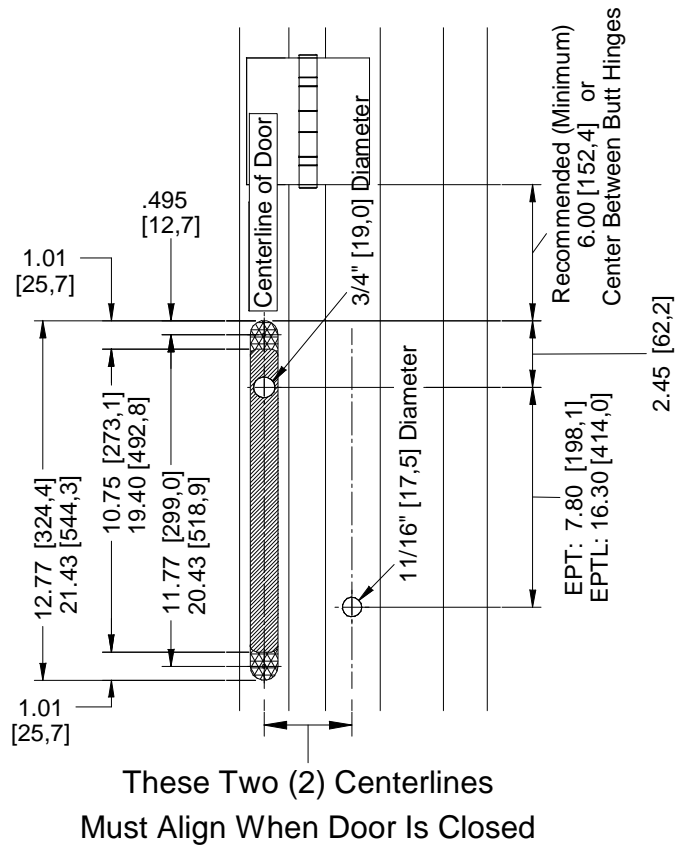
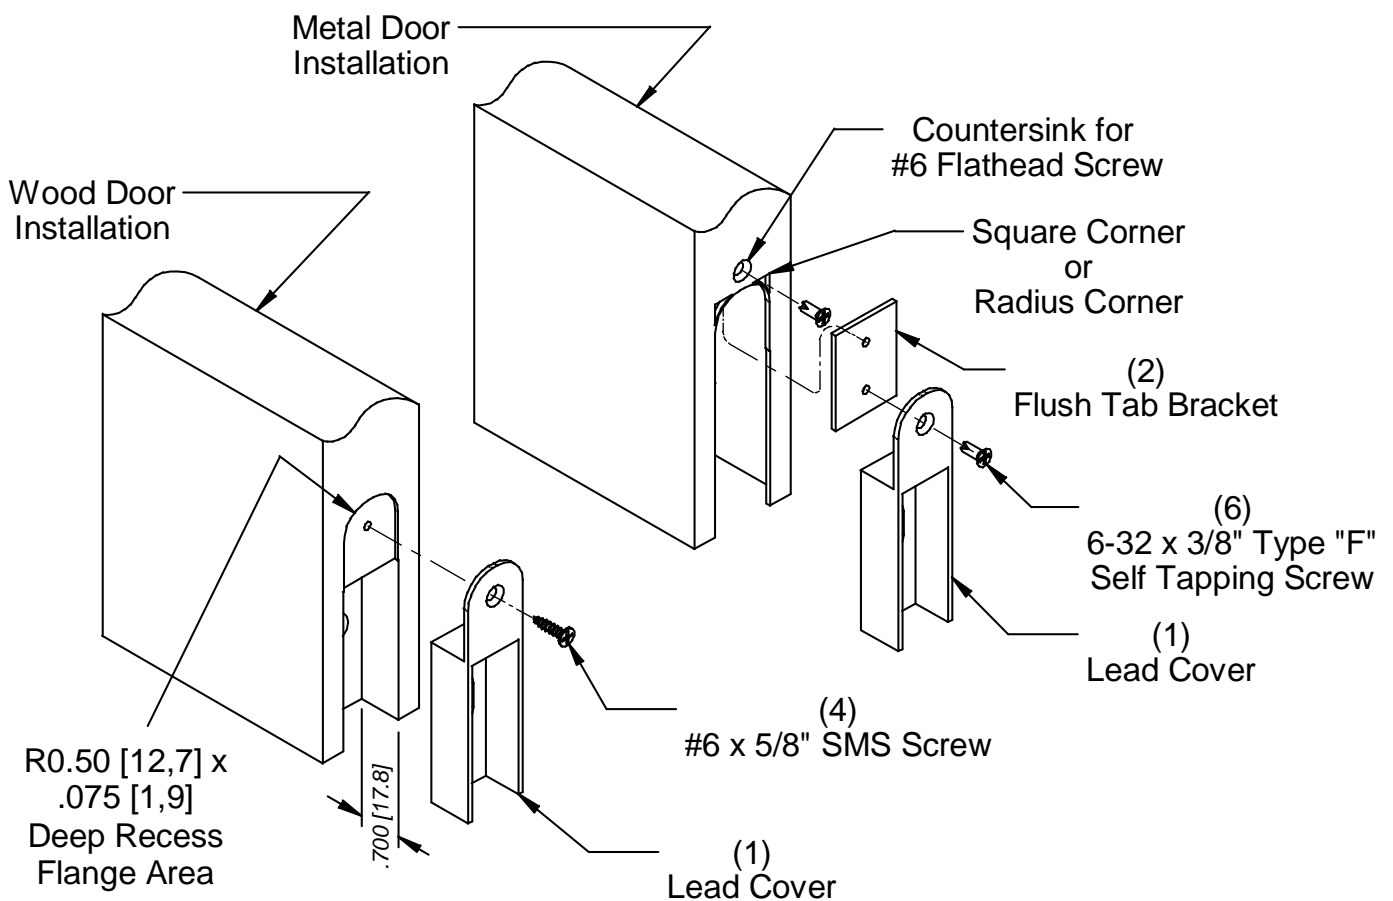

Figure 2
Figure 3
Using a router, cut the main recess slot into the edge of the door .700" [17,8mm] deep as explained in Figure 2 and Figure 3. Reset the router depth to .075" [1,9mm] and route the two (2) recess flange areas for the flush mount tabs. Place the lead cover into position and mark the location of the cable exit oblong hole and the mounting hole locations. Remove the Lead Cover and drill the (2) two holes using a 1/8" [3,2mm] diameter drill approximately 1/2" [12,7mm] deep. Drill the 3/4" [19,0mm] diameter hole into the door edge. Pass cable from the exit device through the hole in the door edge. Pass the cable through the oblong hole in the Lead Cover. Properly attach the two (2) electrical connectors at the door location. Mount the Lead Cover into place using the two (2) #6 x 5/8" Flathead Type-A Screws provided. Locate and mark the mounting holes for the Flexible Shield onto the door frame. Drill the 11/16" [17,5mm] diameter hole into the door frame. Drill (2) two holes using a 1/8" [3,2mm] diameter drill approximately 1/2" [12,7mm] deep for mounting of the Flexible Shield. Pass the cable through the Flexible Shield and apply Bezel Plate if not preassembled. Properly attach the two (2) electrical connectors at the frame location and pass into the hole of the door frame. Mount the Flexible Shield onto the Lead Cover using the two (2) 8-32 x 3/16" Screws and #8 Split Helical Washers provided. Align the cable and the other end of the Flexible Shield onto the door frame and secure using the two (2) remaining #6 x 5/8" Flathead Type-A screws provided as shown in Figure 4.
Metal doors must also have a flush surface mount installation. The door/frame manufacturer may prepare a pre-fabricated tab for internal mounting capabilities or use the Flush Tab Brackets provided. The cut out for the Lead Cover may be cut with a radius or square cornered as noted in Figure 3 and on the Template provided. If field retrofit installation is being performed, route the complete perimeter of the bracket and tab area and install the EPT/EPTL using the Flush Tab Brackets provided. When mounting the Lead Cover, drill the mounting holes 1/8" [3,2mm] and use the 6-32 x 3/8" Type "F" Self Tapping Screws provided. Follow the Template provided for placement of the screw holes for the Flush Tab Brackets. Also when mounting the Flexible Shield to the metal door frame, drill the same holes at 1/8" [3,2mm] and use the two (2) remaining 6-32 x 3/8" Type "F" Self Tapping Screws.
The illustration of Figure 3 represents the configurations for both the solid core wood door and metal door installations. This is to help to understand the process for flush mounting the EPT/EPTL in the correct manner for the door application required.
Attach all proper connections of the harness at the door location. Push the cable and connectors back into the hole of the door. Mount the Flexible Shield to the Lead Cover as shown in Figure 4. Mount the Lead Cover as described in Figure 3 and Figure 4. Attach the proper connections at the frame location. Push the cable and connectors back into the frame. Mount the Flexible Shield to the frame as described in Section 3 and the EL-EPT/ EL-EPTL Physical Installation in Figure 4.